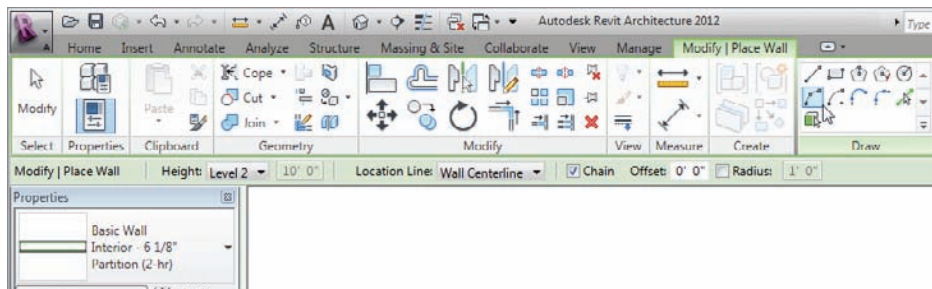

FIGURE 2.32 Choosing options should be old hat by now! The Start-End-Radius Arc button is at upper-right.
7. On the Draw panel, click the Start-End-Radius Arc button (upper-right in Figure 2.32).